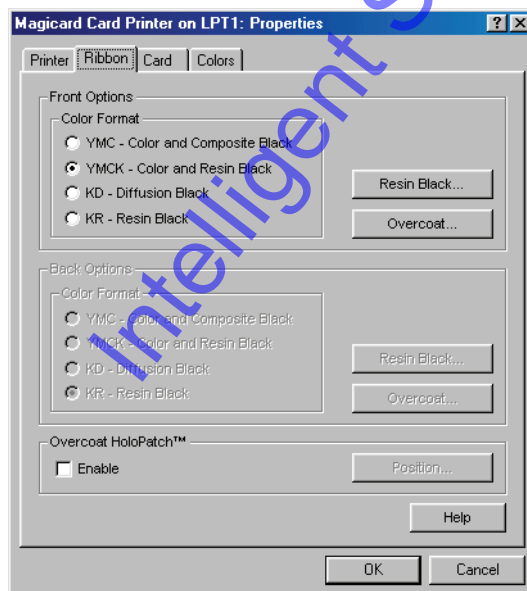

Figure 9-7: Printer Configuration Options – Ribbon Tab
7. Click on the Ribbon Tab and a window with printer ribbon options appears (see Figure 9-7).